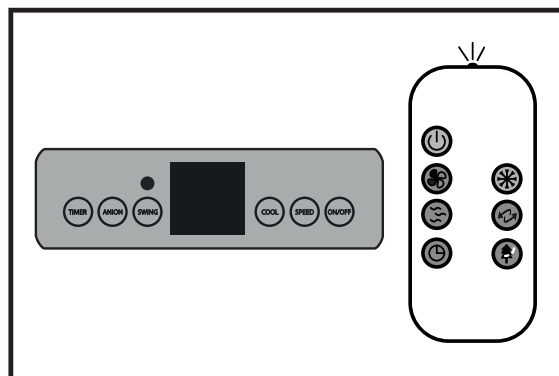

Fig. 8
▶ **4.2. CONTROL PANEL, USE AND FUNCTIONS FOR MODEL BC60 (Fig. 8):**